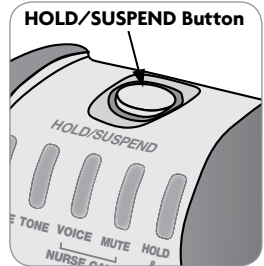
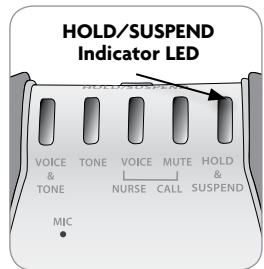

Fig. 18
Fig. 18a
1. Press HOLD/SUSPEND button on the top of alarm (fig. 18) for 3 seconds. The HOLD/SUSPEND LED will begin flashing RED at ½-second intervals if the alarm is in SUSPEND mode (fig. 18a). The green LED indicating mode will continue to flash, but the alarm is not monitoring.